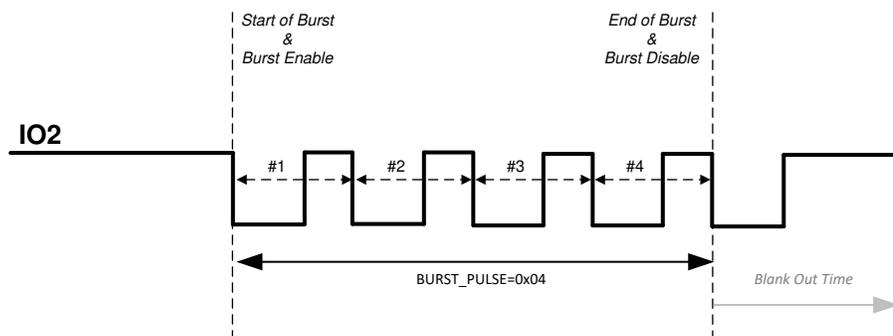

Figure 18. IO_MODE 3 Description
- IO_MODE = 3:** In this mode, burst enable and start of burst are both triggered by the falling edge of IO2. TI recommends that IO2 pin is kept pulled up to VDD for this mode. The device then expects a clock at IO2 pin to generate pulses on the OUTA/OUTB pins as shown in Figure 18. The number of pulses are counted by counting falling edge to next falling edge transitions on IO2 once the start of burst is triggered. End of burst sequence is signaled when the number of pulses defined in BURST_PULSE are sent. After end of burst, a blank-out timer interval defined by the DRV_PLS_FLT_DT register is started to prevent triggering of a new start of burst in the event if the IO2 pin is still toggling. After the start of burst, the state of OUTA and OUTB pins are determined by IO1 and IO2 pins as shown in Table 22.